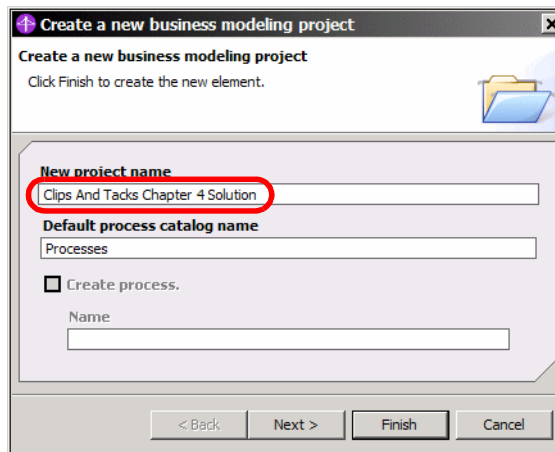

Figure 4-4 Creating a new project ClipsAndTacks
- ▶ In the Target project field, select an existing project from the drop-down list or click *New* to create a new project **Clips And Tacks Chapter 4 Solution** (Figure 4-4).